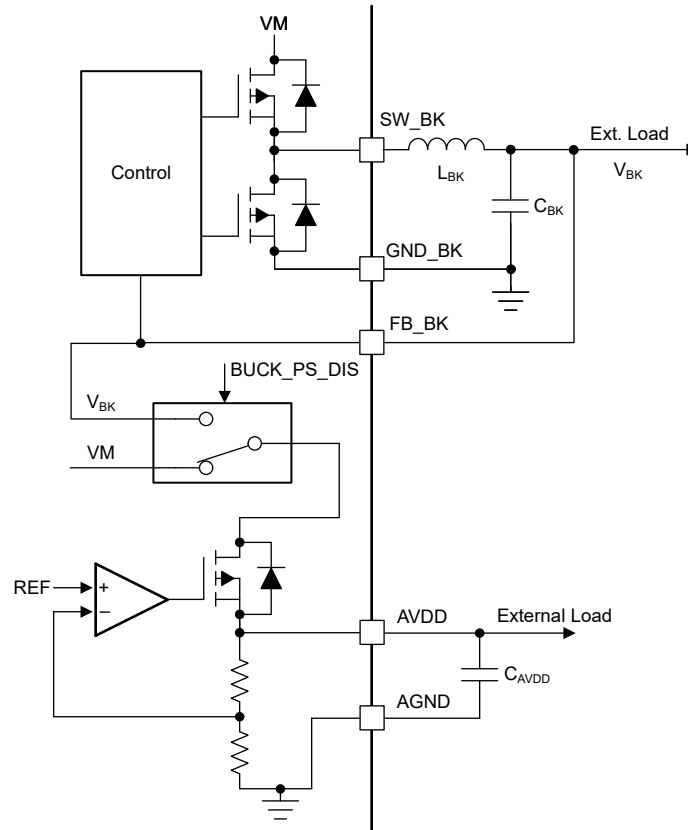

Figure 8-11. AVDD Power Sequencing on mixed mode Buck Regulator
The AVDD LDO has an option of using the power supply from mixed mode buck regulator to reduce power dissipation internally. The power sequencing mode allows on-the-fly changeover of LDO power supply from DC mains (VM) to buck output (VBK) as shown in Figure 8-11. This sequencing can be configured through the BUCK\_PS\_DIS bit . Power sequencing is supported only when buck output voltage is set to 5.0 V or 5.7 V.